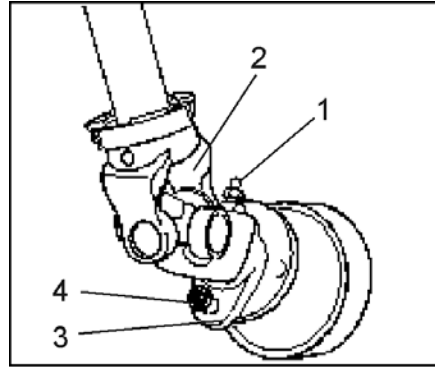

Fig. 10
- Slacken grease nipples (Fig. 10/1) and push on the PTO shaft (Fig. 10/2).
- Affix connecting yoke (Fig. 10/3) by using a shear bolt (Fig. 10/4).
- Insert grease nipples (Fig. 10/1).